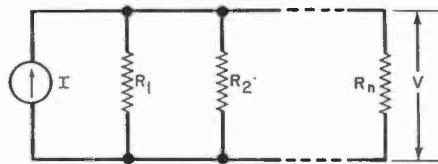

Fig. 13
**B. Resistors in Parallel.** Consider  $n$  resistors connected in parallel (Fig. 13). Applying Kirchhoff's current law,  $I = V(1/R_1 + 1/R_2 + \dots + 1/R_n) = V(G_1 + G_2 + \dots + G_n) = VG_{eq}$ , where  $G_{eq} = G_1 + G_2 + \dots + G_n$  is the equivalent conductance of the